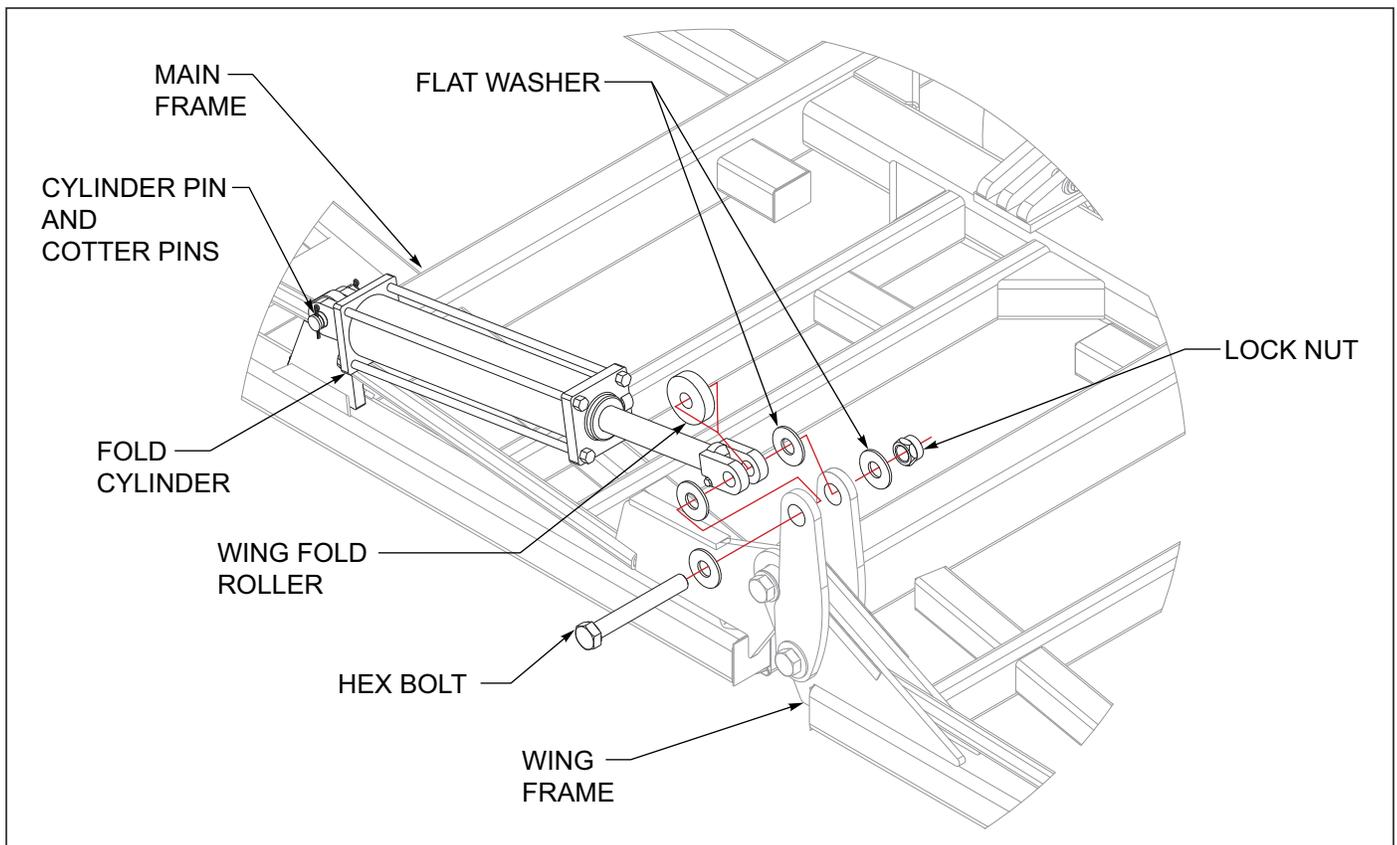
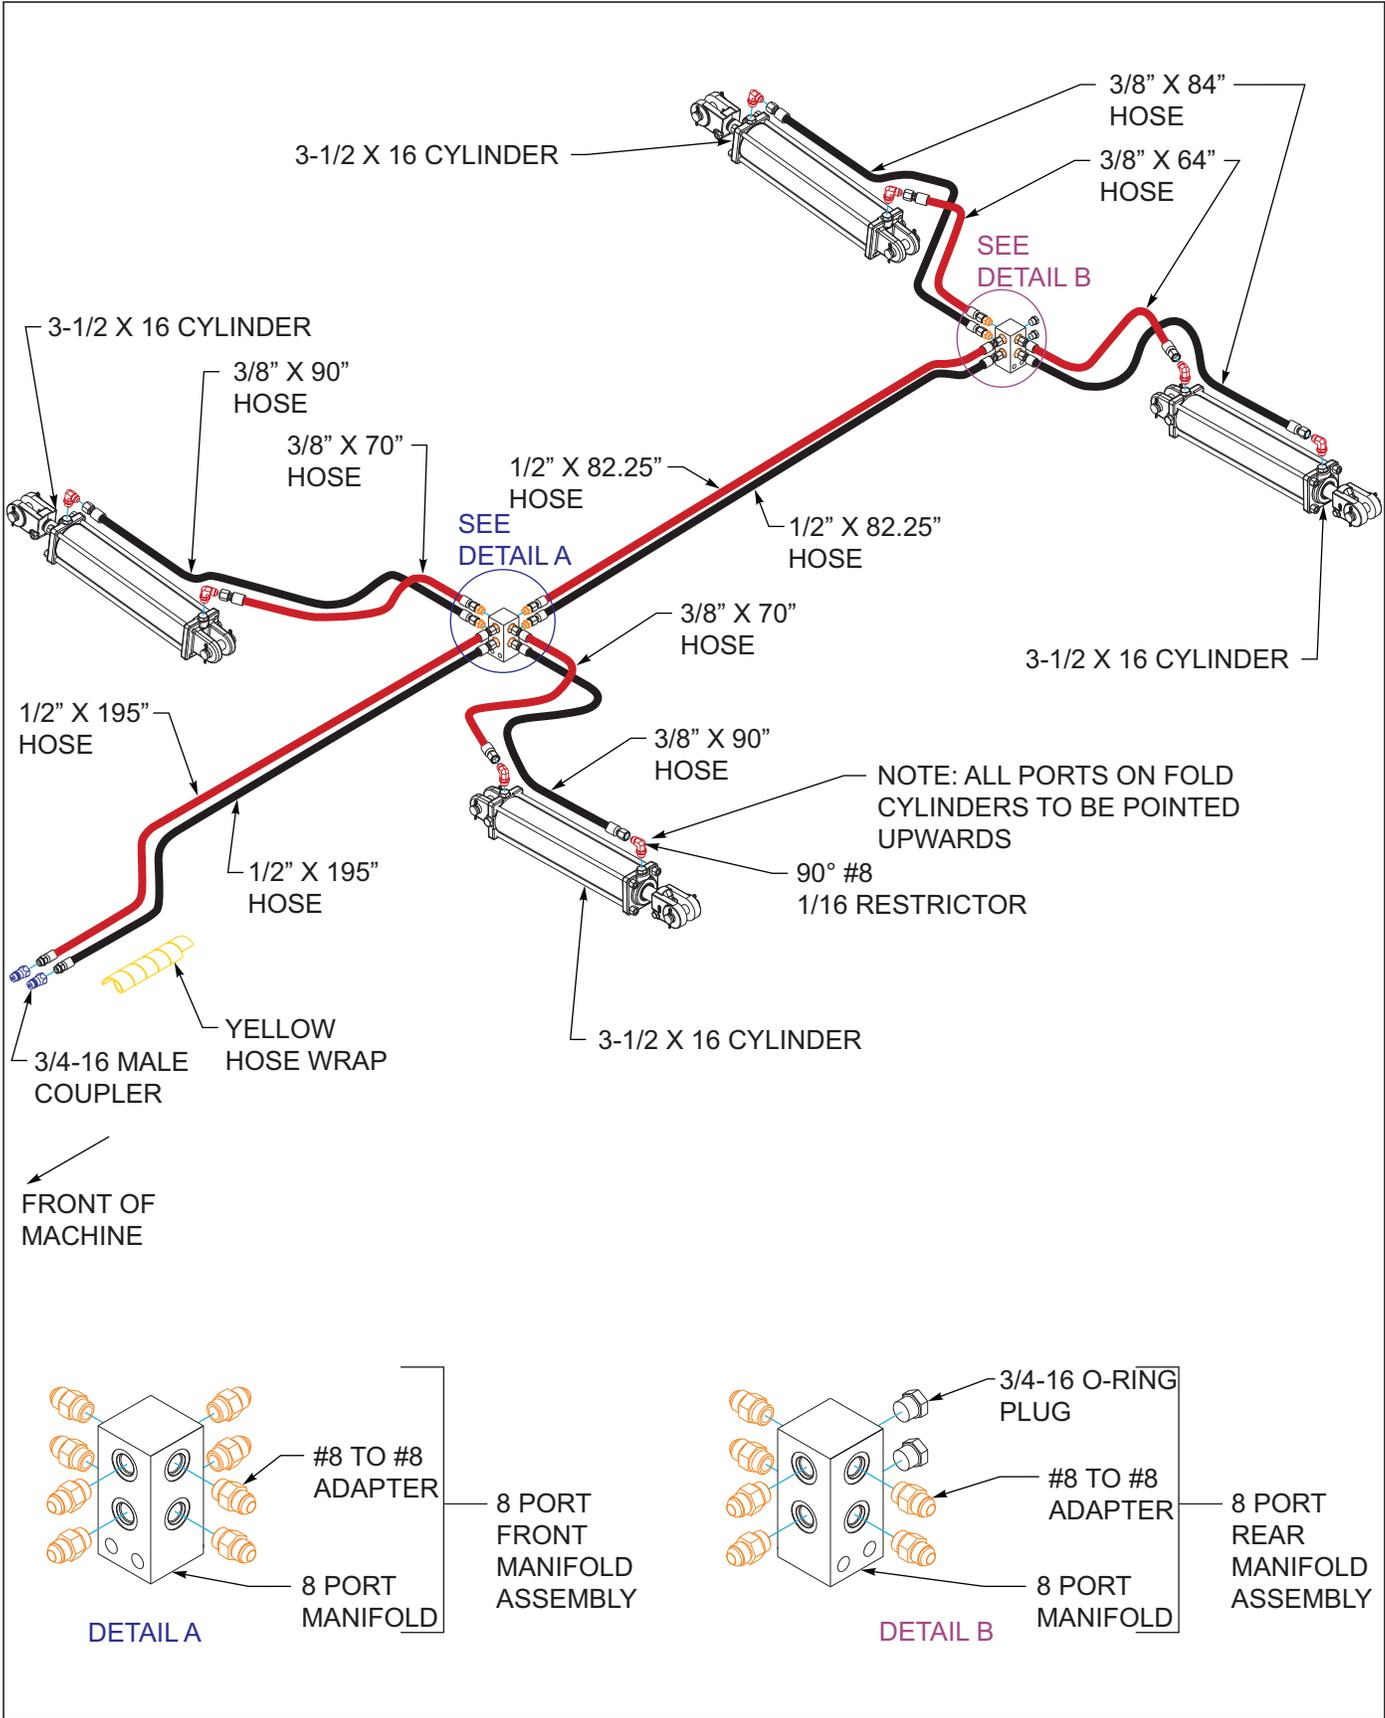

Figure 3-23: Hydraulic Fold Installation
Figure 3-24: Hydraulic Fold Installation 877-30'
4. Install the 8 port manifold to front 2 hole plate of center frame using 1/2 x 3-1/2 bolts and 1/2 lock nuts See Figures 3-24 through 3-26.
1. Install base end of fold cylinders to the main frame cylinder anchors using cylinder pins and cotter pins provided *See Figures 3-23*. Model 877-30' fold cylinders are to be installed with ports facing upward. Models 877-35'-40' cylinders are to be installed with the ports facing the rear of the machine *See Figures 3-24* and *3-25*.
3. On 30' models, *only after the fold cylinders have been charged with oil*, assemble the rod end of the fold cylinder to the wing fold plates and wing fold roller using 1 x 7-1/2 bolts, 1" flat washers and locknuts. Use flat washers on both outside and inside of each wing fold plate *See Figures 3-23*.
4. On 35' and 40' models, *only after the fold cylinders have been charged with oil*, assemble the rod end of the fold cylinder to the wing fold plates and wing fold roller using 1-1/4 x 8 bolts, 1-1/4 flat washers and locknuts. Use flat washers on both outside and inside of each wing fold plate *See Figures 3-23*.
6. Install fold cylinder hoses and couplers *See Figures 3-24* and *3-25*. Model 877-30' wrap fold cylinder hoses with yellow hose wrap. Models 877-35'-40' wrap RH fold cylinder hoses with yellow hose wrap and LH fold cylinder hoses with black hose wrap.